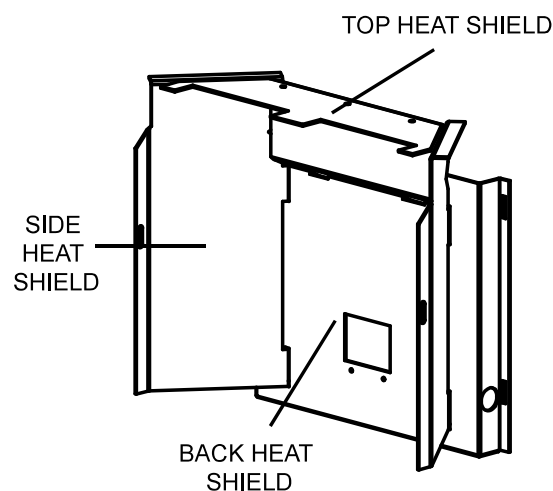

Figure 20. Cast iron stove heat shields.
2. Clean behind the back heat shield as well as all exhaust passages. Ashes can build up behind the back heat shield and inside the exhaust passages. Firstly, the side heat shields must be removed by unscrewing the 2 bolts holding them in place. Now you will be able to access the 4 mounting bolts securing the back heat shield in place. Remove the 4 bolts and remove the back heat shield from the pellet stove. Using a brush, remove all of the ashes that have built up on the back wall of the combustion chamber, on the inside of the heat shield as well as in the exhaust passage. Inspect the auger chute gasket at this time. Make sure the gasket is still in good condition and that it is in the original position when the back heat shield is bolted back into place. Make sure to clean behind the back heat shield after every 3 tons of fuel burned. See Figure 20 for removal of the heat shields.